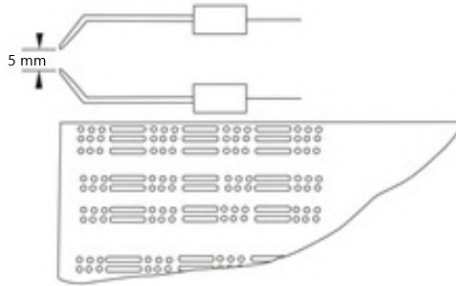

Figure 12
- Check the position of the start electrodes regularly. See Figure 12, page 19.